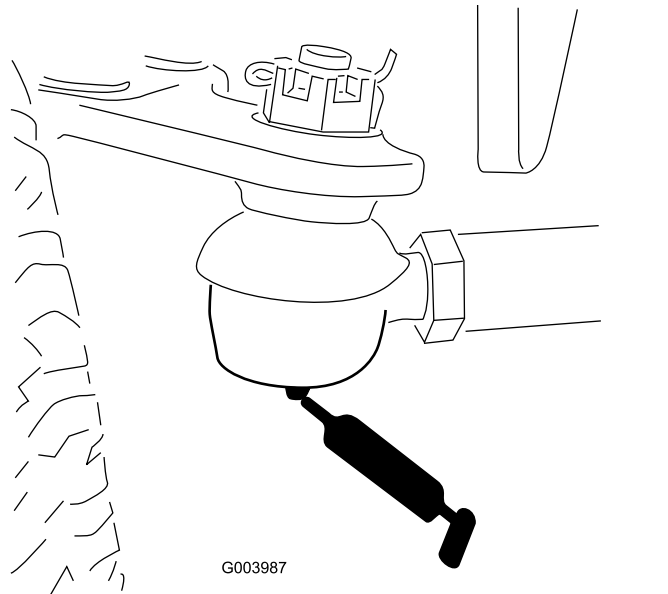

Figure 77
- Rear axle tie rod (2) (Figure 77)